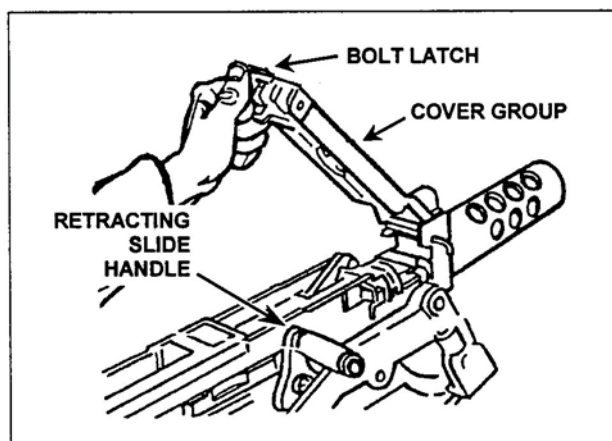

Figure 1. Raising of the cover.
- a. Unlock the bolt latch release and raise the cover (Figure 1).
- (1) Raise the cover group (Figure 1).